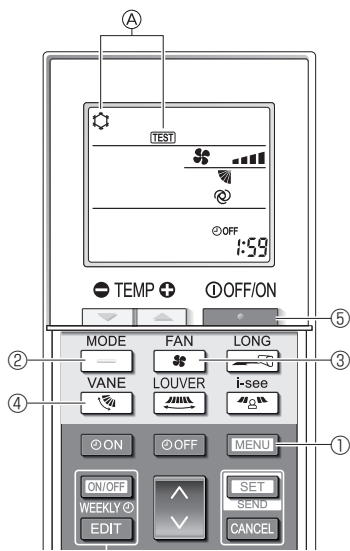

Fig. 8-5
- 2. Press the **MENU** button ① for 5 seconds. (Fig. 8-5)
Ⓐ **[TEST]** and the current operation mode are displayed. (Fig. 8-5)